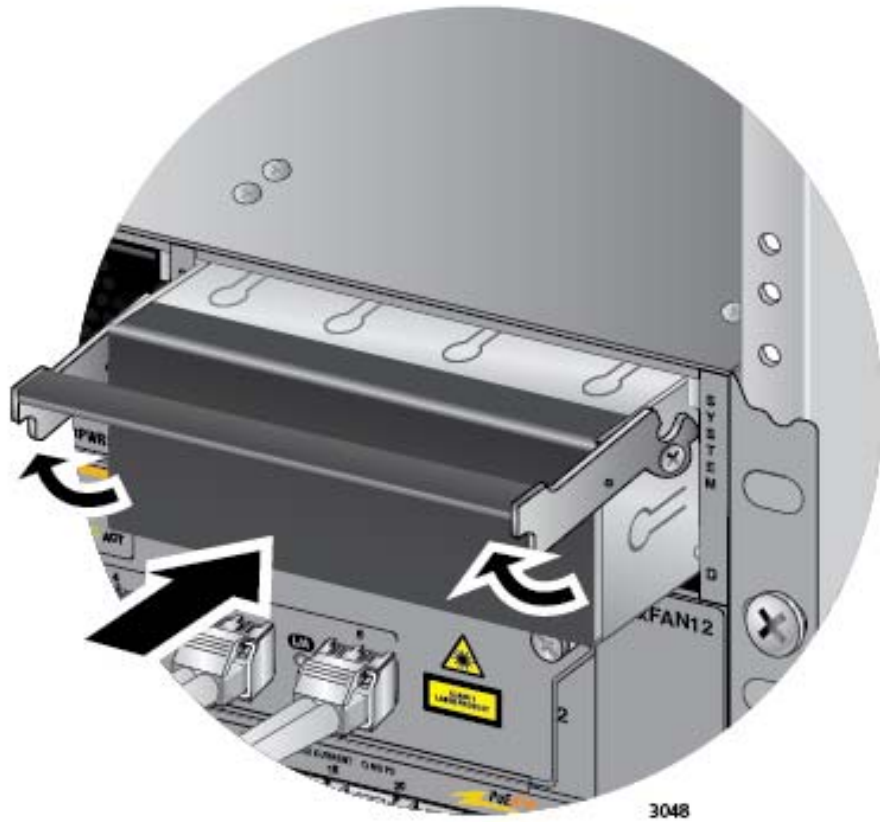

Figure 147. Installing a Blank Power Supply Slot Cover
5. Place the locking handle on the slot cover in the up position and slide the cover into the empty power supply slot, as shown in Figure 147 on page 238.